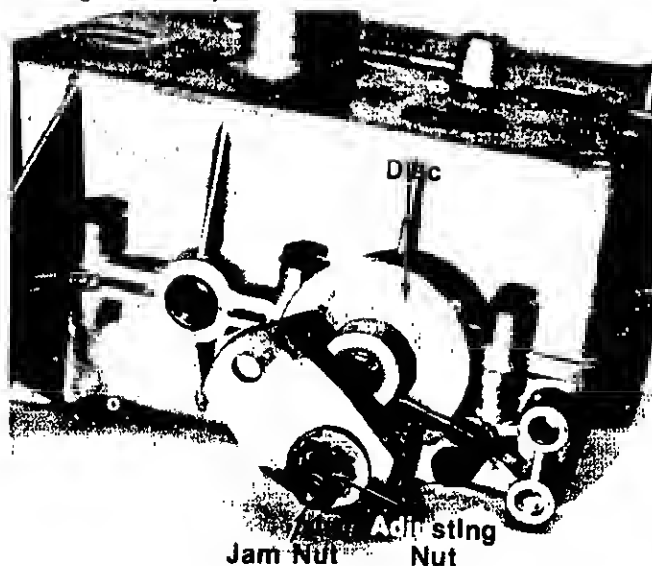

FIGURE 22.
1. Loosen the jam nut. See figure 22.